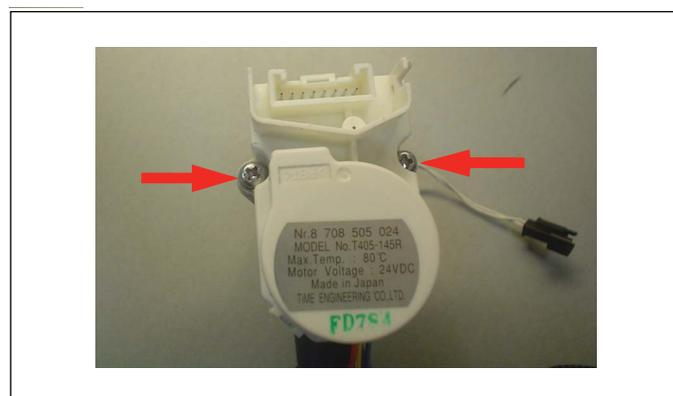

Figure 1
3. Remove the 2 Phillips head screws that hold the watervalue engine to the watervalue body (Fig. 1).
4. Remove the 2 Phillips head screws that hold the watervalue engine to the watervalue body (Fig. 1).
9. After performing the service, attach the watervalue engine to the watervalue body with the 2 phillips head screws as shown in Fig. 1.